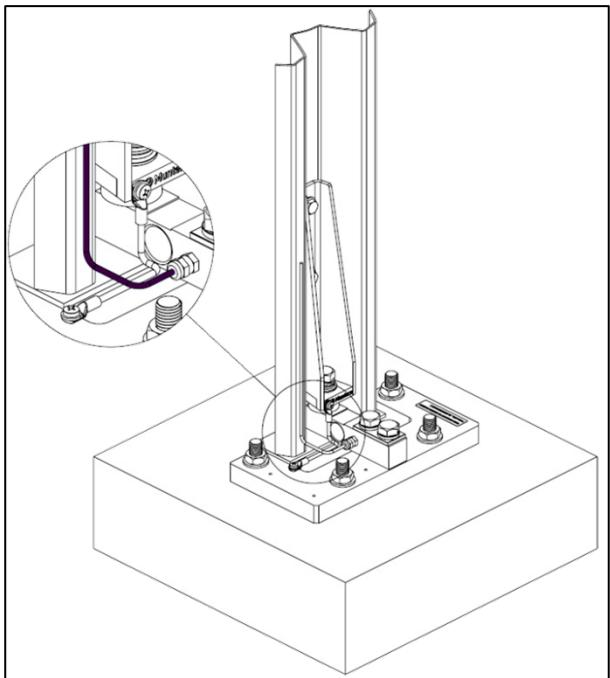

Figure 25: Grounding cable
14. Using wire ties (not included) run a grounding cable from the load cell up the bin leg (Figure 25).